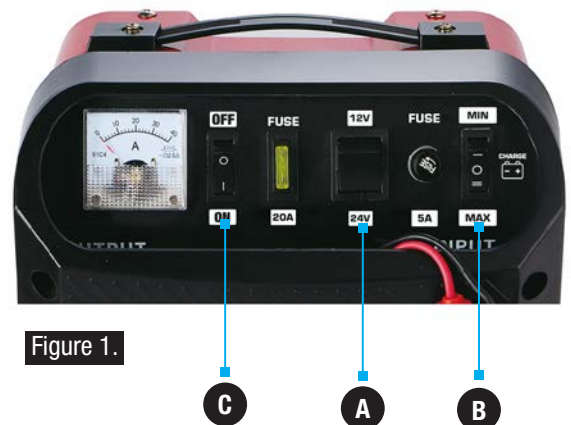

Figure 1.
5. Ensure that the **ON/OFF** power switch is set to the **OFF (O)** position and the equipment is disconnected from the power supply.
7. Select the required voltage (**12V** / **24V**) using the rocker switch (**A**) as shown in **Figure 1**.